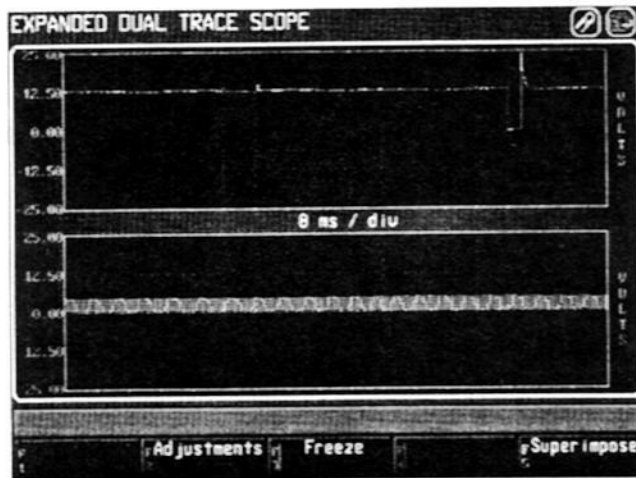
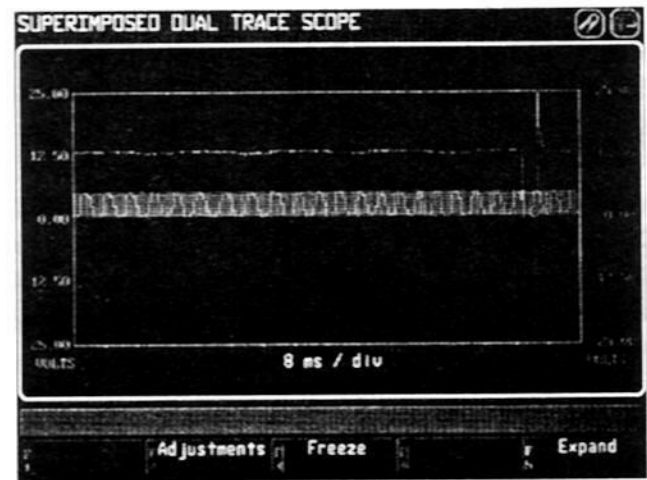

Figure 3-52
Figure 3-53
- [F4] - to expand the scope meters to full screen (see Figure 3-52);
- [F5] - to superimpose both patterns in one meter screen (see Figure 3-53).
- [F5] – to toggle between expanded waveforms (see Figure 3-52) and superimposed waveforms (see Figure 3-53). This allows close comparison of both waveforms over time.